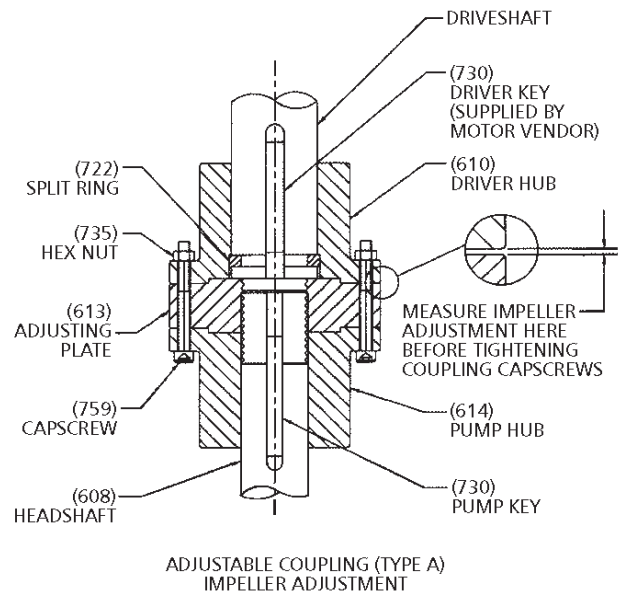

Figure 16
Impeller adjustment is identical for all motors and right angle gear drives. Adjustment is accomplished by turning the adjusting plate (613). (See Figure 16 or 17). The correct adjustment is listed on the Outline Drawing for the specific unit. If the pump has a thrust pot, do not adjust the impeller position until the thrust pot has been installed and adjust the impeller position by using the adjust nut on the thrust pot.
1. With the impellers touching the bottom of the bowls, turn the adjusting plate (613) towards the driver hub (610) or spacer (612) to obtain 0.015 inch clearance between the adjusting plate and driver hub or spacer for the first 10 feet of column. Add 0.010" for each additional 10 feet of column. See Figures 16 and 17. **Note: The determination of driver shaft end play can be critical and should be added to this setting.** For larger pumps over 8", this amount may be too little; please refer to Outline Drawing.
For enclosed impellers obtain the clearance between the adjusting plate and driver hub or spacer as specified on the outline drawing. See Figure 16 or 17.